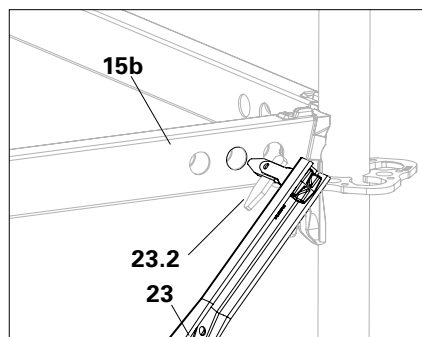

Fig. A4.06c
3. Straighten the tilt finger (**23.2**). (Fig. A4.06c)